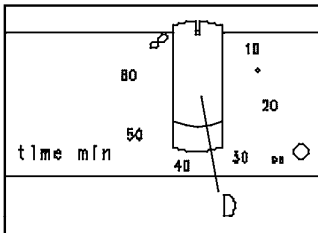

Fig. 5
- Turn knob **D** clockwise to set the desired running time, 1 to 60 minutes, or turn it anti-clockwise to ∞ for continuous operation. **Fig. 5**. The green LED lights up.
- Set control knob **D** to **I** by turning it clockwise or anti-clockwise. The dividing process is stopped. **Fig. 5**